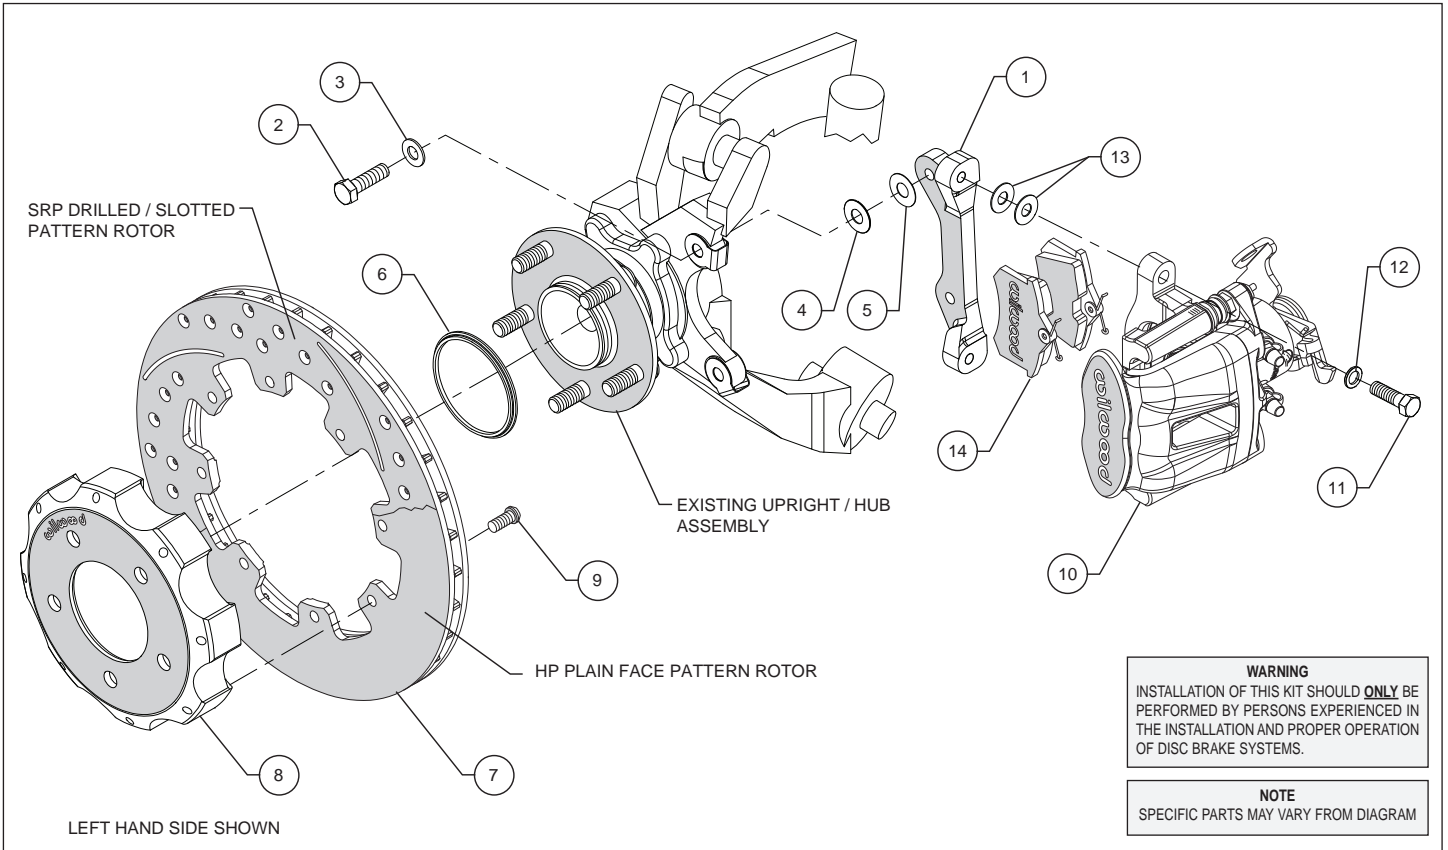

Figure 1. Typical Installation Configuration
- The caliper mount bracket (1) should initially be installed with clean, dry threads on the mounting bolts. Orient the bracket as shown in Figure 1, and install using mounting bolts (2) and washers (3). Initially place one each .016" thick shim (4), and .030" thick shim (5) on each bolt between the bracket and upright, Figure 1. Temporarily tighten the mounting bolts. **NOTE:** The bracket must fit squarely against the mount bosses on the upright. Inspect for interference from casting irregularities, machining ridges, burrs, etc. Later, after the caliper alignment has been checked, the mount bolts will be secured using red *Loctite*® 271.
- Orient the rotor (7) and the hat (8) as shown in Figure 1 and Photo 1. Attach rotor to hat using bolts (9). Using an alternating sequence, apply red *Loctite*® 271 to the threads, and torque to 25 ft-lb.
- Slide the rotor registration adapter (6) onto the axle register on the axle hub with the smaller O.D. facing outward, Photo 2. Slide the hat/rotor assembly onto the axle hub. **NOTE:** The hat must fit flush against the axle hub flange or excessive rotor run out may result. Install three lug nuts (finger tight) to keep the hat/rotor assembly in place while continuing with the installation.
- Slide the brake pads (14) up into the caliper (10) from the bottom with the friction material facing the rotor until the "v" spring clip snaps into place against the anvil, as shown in Figure 1 and Photo 3. They should install easily without interference.
- Mount the caliper (10) onto the mounting bracket (1) using bolts (11) and washers (12), as shown in Figure 1 and Photo 4. Initially place two .035" thick shims (13) on each bolt between the caliper and the bracket. Temporarily tighten the mounting bolts and view the rotor (7) from the end of the caliper. The rotor should be centered in the caliper, Photo 5. If not, adjust by adding or subtracting .016" shims (4) and/or .030" shims (5) between the caliper mounting bracket and the upright to center the caliper on the rotor. Always use the same amount of shims on each of the two mounting bolts. Once the caliper alignment and pad centering are correct, remove the bolts (2) one at a time, apply red *Loctite*® 271 to bolt threads, and torque to 35 ft-lb.